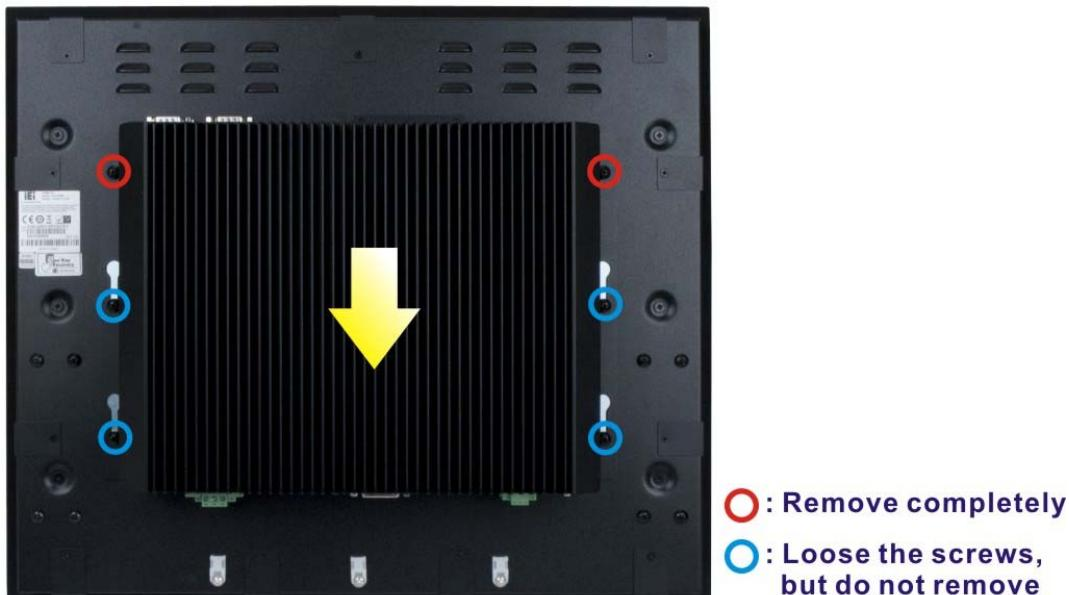

Figure 3-3: SBOX Computer Retention Screws
**Step 1:** Remove the SBOX computer from the S19A/S24A-QM87i-i5 rear panel by removing/loosing the six retention screws indicated in **Figure 3-3**. Slide the SBOX computer downward and lift the SBOX.